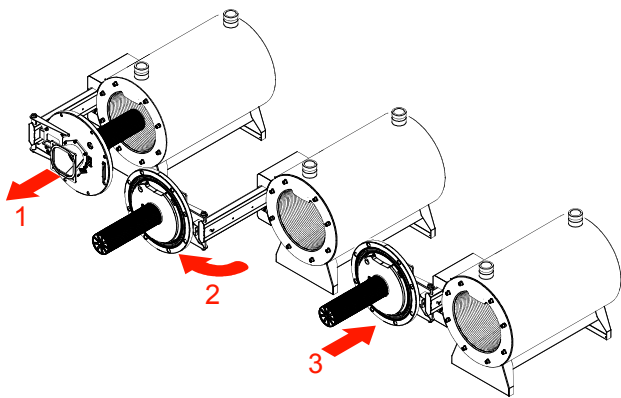

Figure 28: Burner Door Opening
- d. This unit is equipped with a sliding mechanism shown in Figure 28. Position (1) burner assembly slides out of the combustion chamber, (2) rotate away from the combustion chamber and (3) sliding back to allow full access to the combustion chamber for inspection and service.